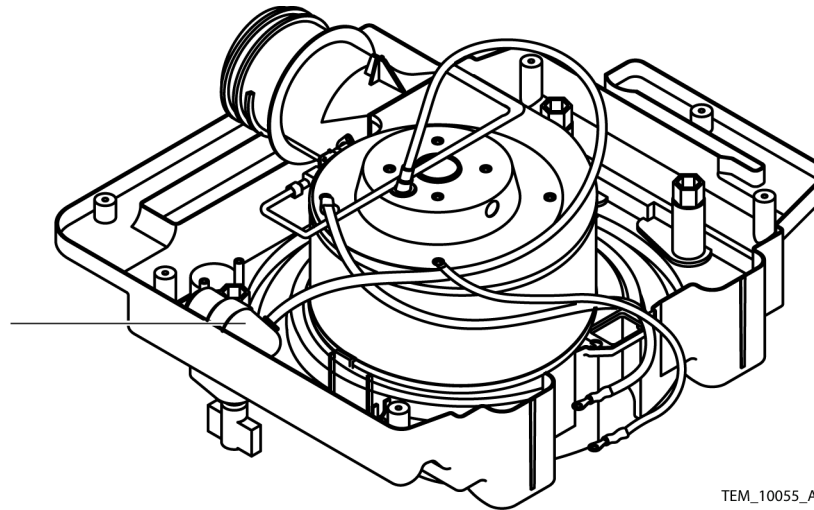

Figure 5-63. Capacitor Installation
38. Install the capacitor in the rear cover assembly and tighten the nut to 7 to 10 in/lbs (18 to 25 cm/kg). See Figure 5-63, item 1.
39. Install the cable tie around the capacitor. See Figure 5-63.